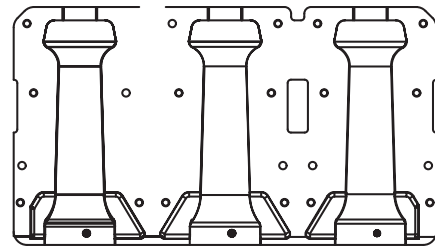

FIGURE 37
- 3 - Burner assembly is a cluster assembly (FIGURE 37) and can be removed as one.